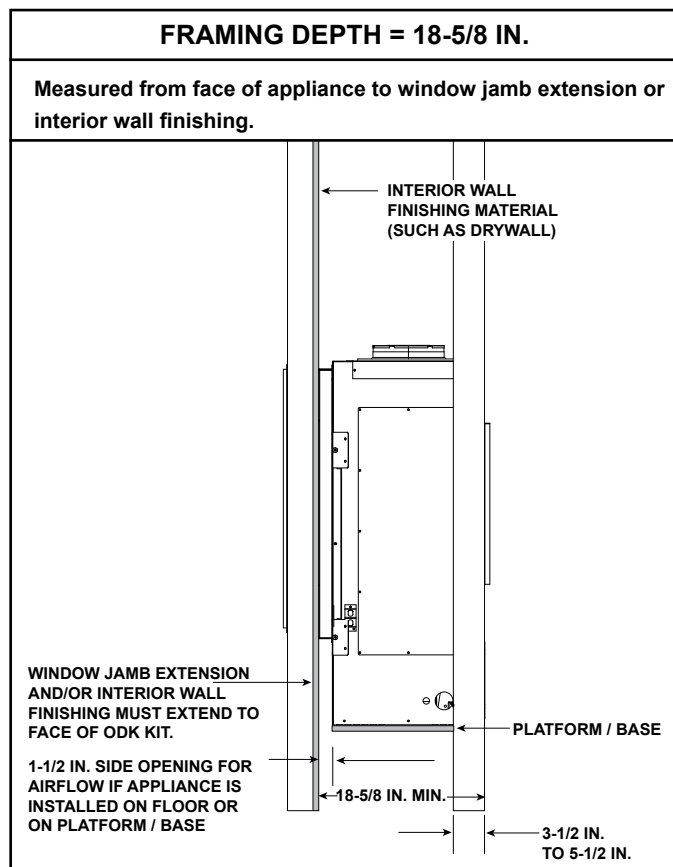

Figure 4 Inside Wall Setup
- It is permissible to frame to the minimum framing dimensions as noted in the appliance Installation Manual. Minimum depth dimension must be framed to the specifications for the ODK Kit, as noted in this instruction, not the standard interior dimensions for See-Through appliances. The minimum dimension is 18-5/8 inches as noted in Figure 4.